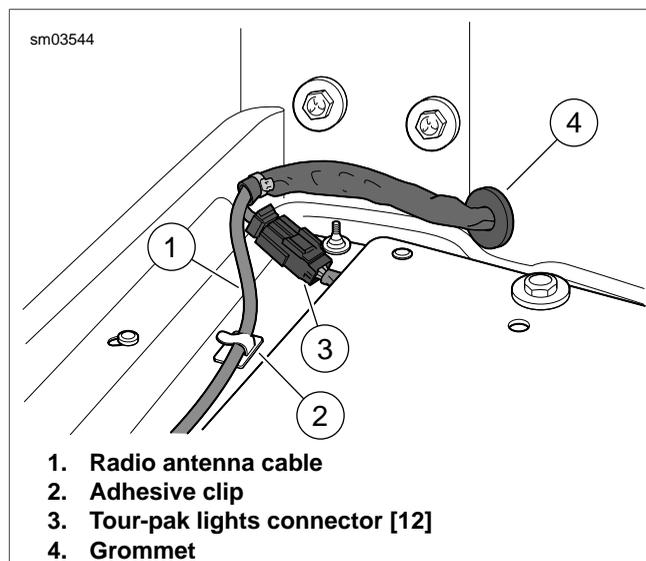

Figure 2-115. Disconnect Tour-Pak Lights Connector
3. Disconnect Tour-Pak lights connector [12], 3-place Multi-lock. See Figure 2-115.
7. Connect Tour-pak lights connector [12], 3-place Multilock. See Figure 2-115.
4. Disconnect Tour-Pak lights connector [12], 3-place Multi-lock. See Figure 2-115.
12. Connect Tour-pak lights connector [12], 3-place Multilock. See Figure 2-115.